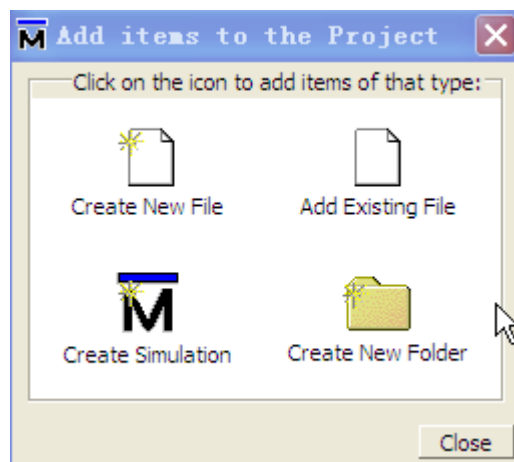
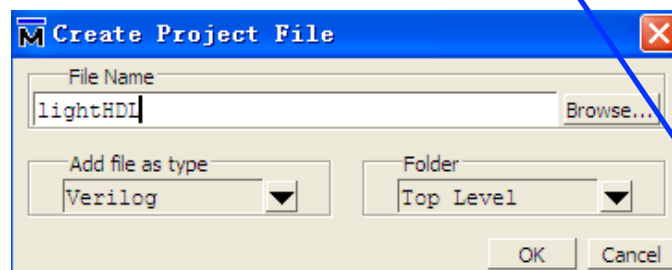

Figure 32. Add items to a Project
Figure 34. Add new files to Project
4. Once you click **OK** to accept the new project settings, a blank Project window and the **"Add items to the Project"** window will appear (Figure 32), in which you can create a new design file, add an existing file, create a simulation configuration or add a folder for organization purposes.
Either Clicking on the **Create New File** icon of Figure 32 or selecting **File > New > Project from the menu** bar can create a new file, here we choose the first method: the Create Project File window shown in Figure 34 will appear. Specify the file type, specify a folder to which. Here we input lighthDL as File Name, choose Verilog for Add file as type and Top Level for Folder (Folder means the path to which the file will be added and the Top Level means the project path we just set), then click **OK**. Click **Add items to the Project** window **Close** bottom.